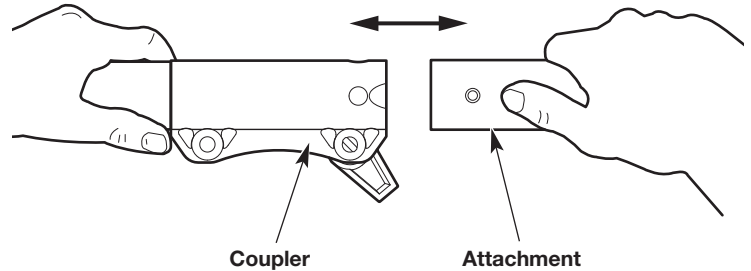
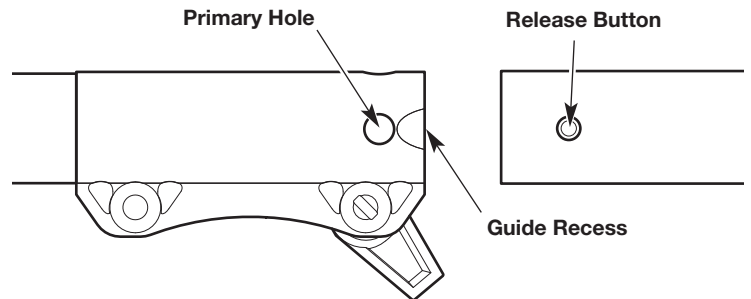

Fig. 11
Fig. 12
4. Align the release button with the guide recess (Fig. 12).
5. Push the attachment straight into the coupler (Fig. 11) until the release button snaps firmly into the primary hole (Fig. 12).
3. Press and hold the release button (Fig. 12).
4. Pull the attachment straight out of the coupler (Fig. 11).